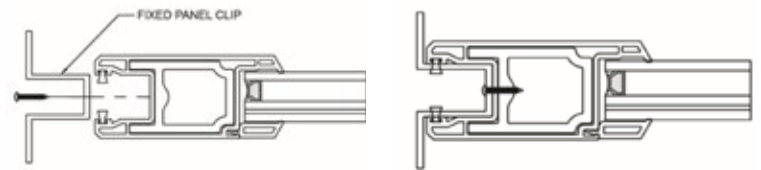

Figure 24a
1. **Each fixed panel** has a single 6" fixed panel clip (Item 15) installed at the midspan. Push the clip into the fixed panel stile and secure in place using three (3) screws (Item 45, Figure 24a).